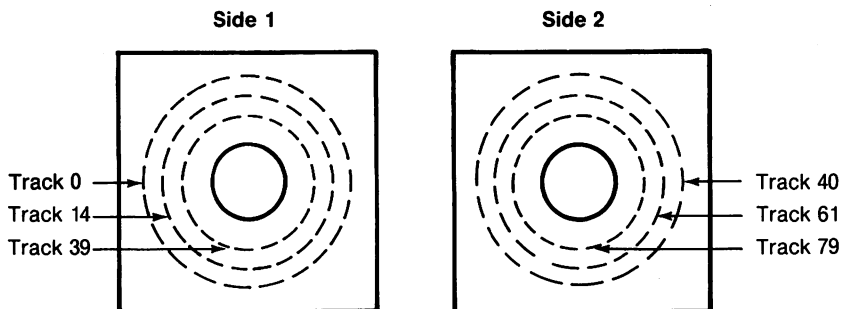

Figure 2-5 Diskette track layout
- Although the metallic oxide coating over the diskette surface is uniform, it is, for purposes of recording and reading data, considered to consist of concentric circles of magnetizable spots. Each circle is called a “track”. On a standard 5-1/4 inch diskette, 40 tracks are defined to exist on each side of the diskette. Tracks are numbered 0 through 39 on one side, and, if the diskette is double-sided, 40 through 79 on the other side, as shown in Figure 2-5.